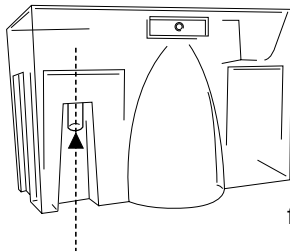

fig. 2
- 1) Remove the rubber bung from the spout (Fig. 2).
- 2) Make a hole in the tank inside the spout using a fine drill bit (8mm) (Fig. 2).